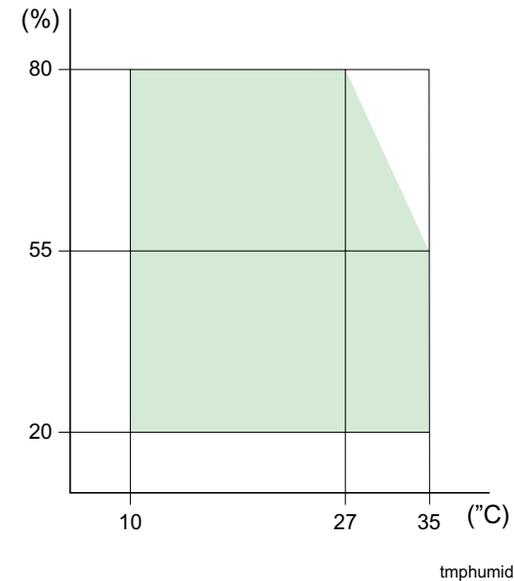

Figure 1-2. Environmental Condition
- Operating: 10 to 35°C (see Figure 1-2, "Environmental Condition")